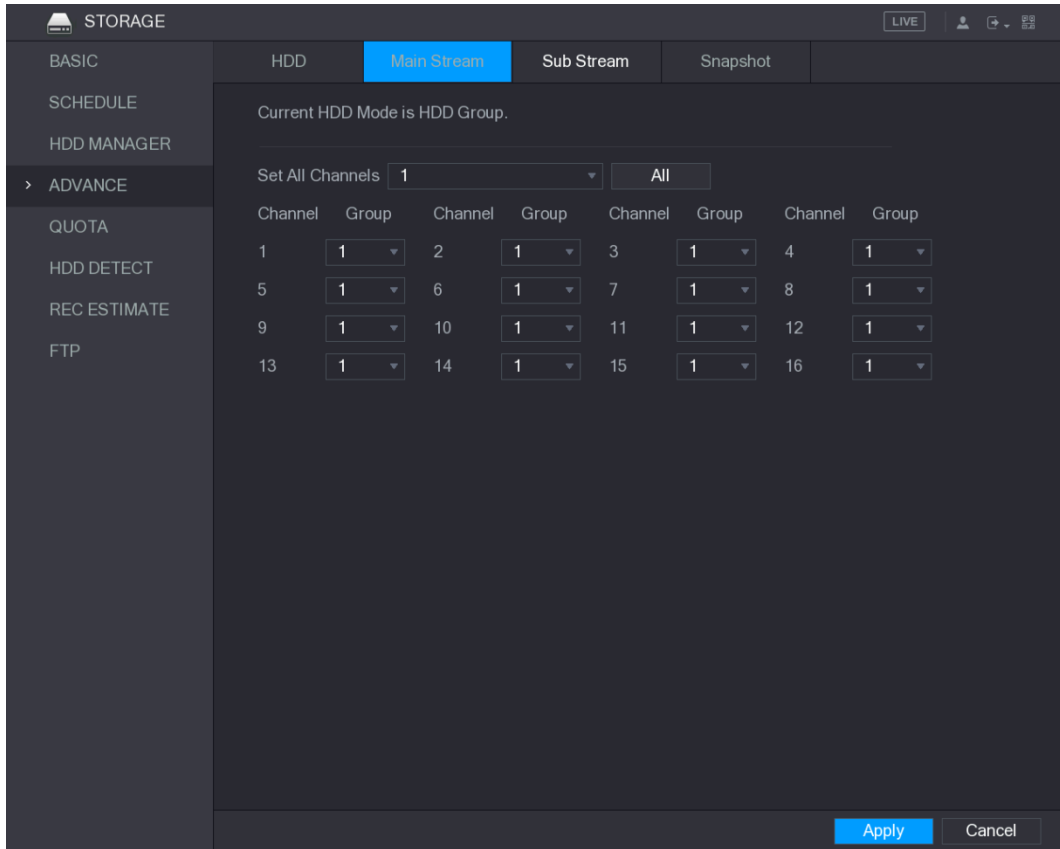
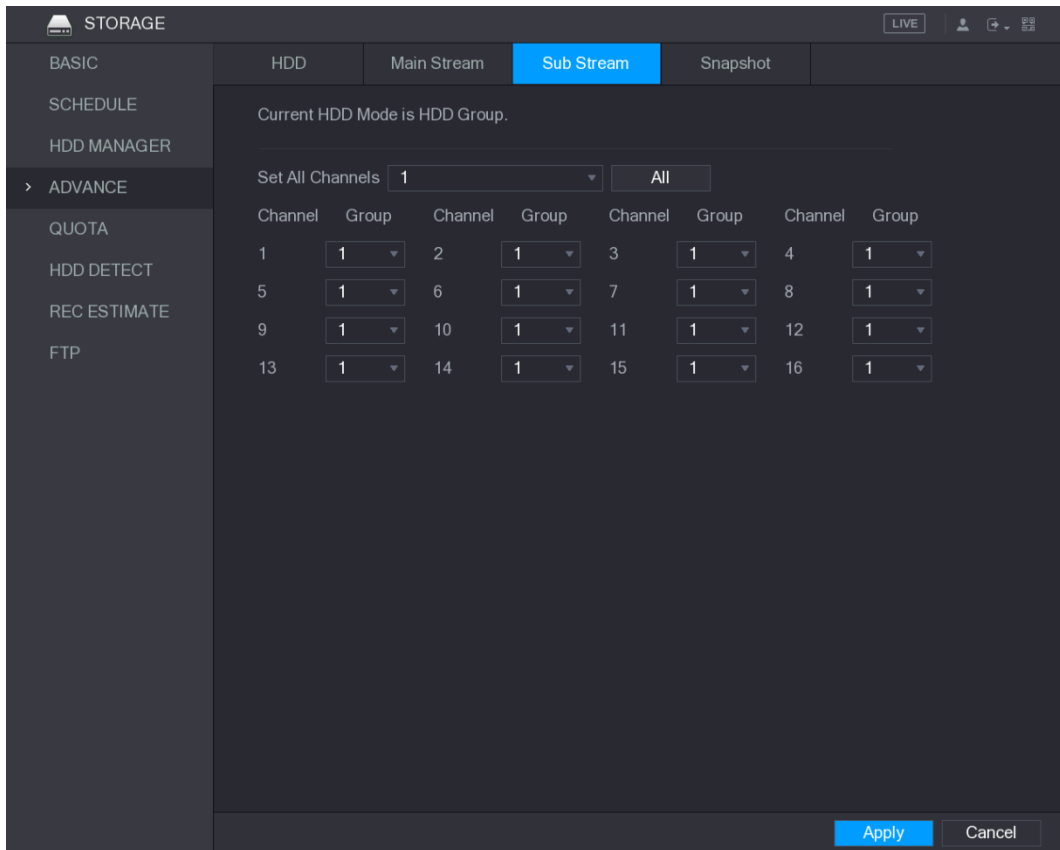
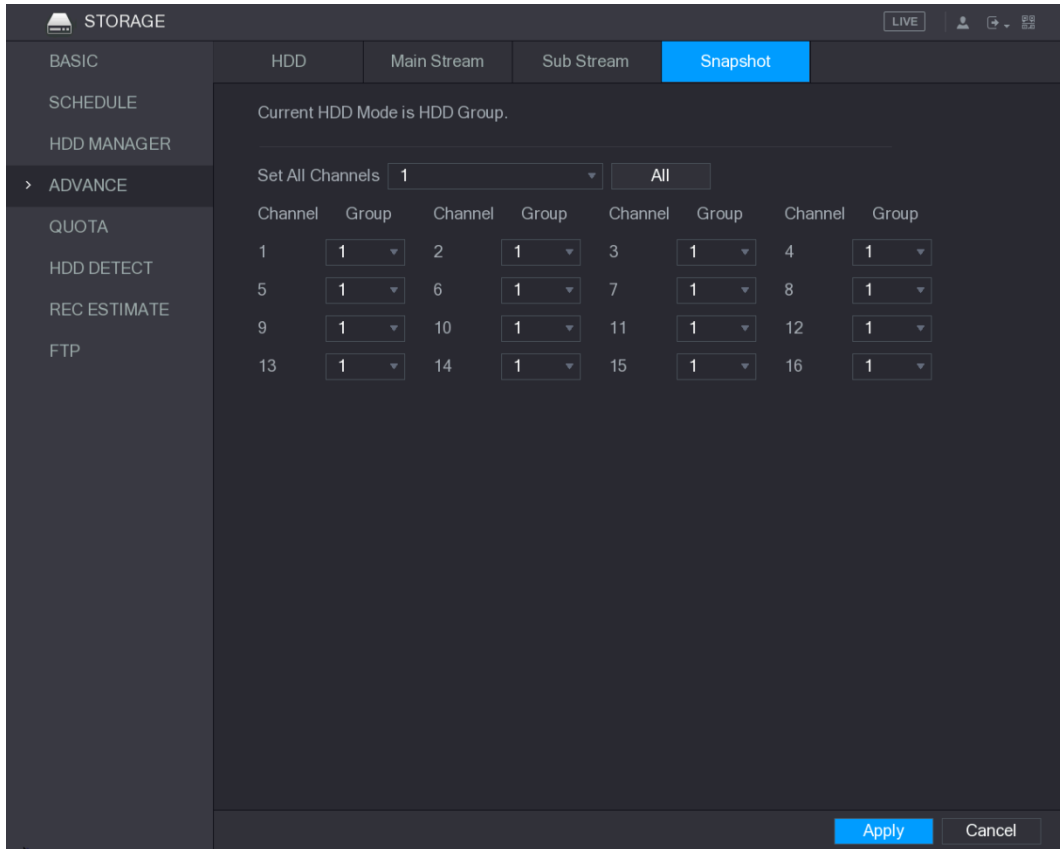

Figure 5-254
Figure 5-255
Figure 5-256
**Step 3** After configuring HDD group, under the **Main Stream** tab, **Sub Stream** tab and **Snapshot** tab, configure settings to save the main stream, sub stream and snapshot to different HDD group as selected by you. See Figure 5-254, Figure 5-255, and Figure 5-256.